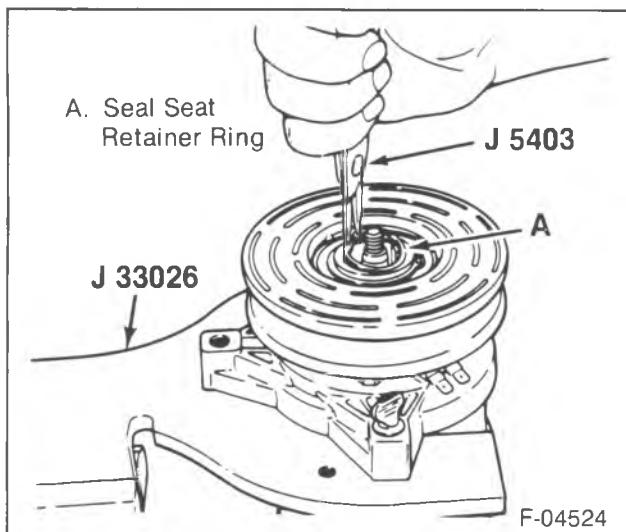
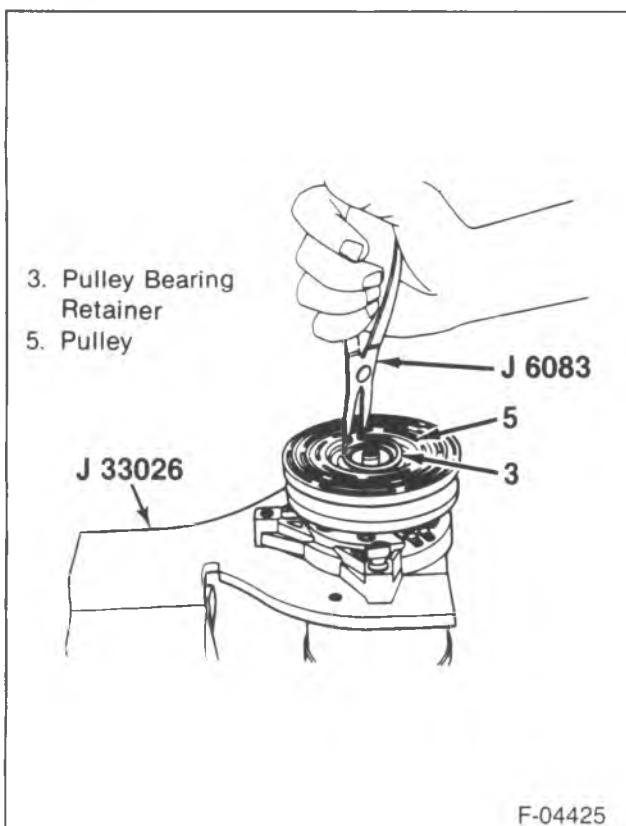

Figure 22—Removing or Installing the Shaft Lip Seal Retaining Ring
Figure 23—Removing or Installing the Shaft Tip Seal
1. Clutch plate and hub assembly (2).
- Install J 34614 over the threaded end of the shaft (20).
2. Shaft seal retainer ring using J 5403 (figure 22).
- Clean the compressor neck area around the shaft (20), the exposed part of the shaft seal (8) and the O-ring seal groove.
3. Shaft lip seal using J 23128-A (figure 23).
- 2. Shaft lip seal using J 23128-A (figure 23).
3. Shaft seal retainer ring using J 5403 (figure 22).